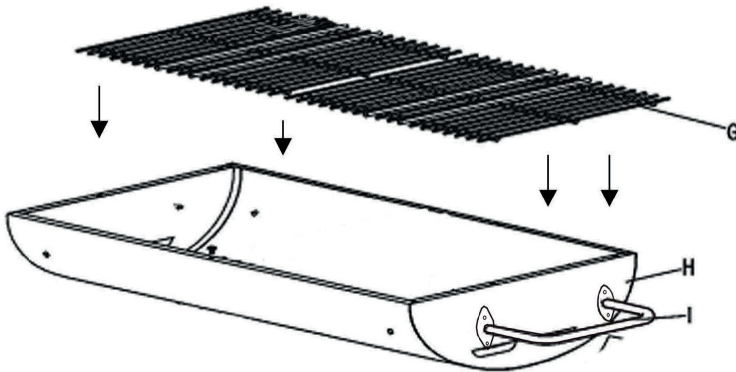

Fig. 3
5. Place the charcoal grill (G) in the fire bowl (H). **(Fig. 3)**